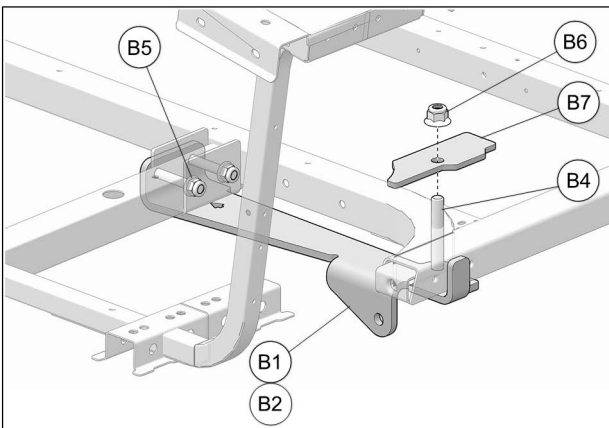

Fig. 11
9. Slide cover plate (**B7**) over M10x70mm bolt (**B4**) and secure plate to vehicle frame with M10 nut (**B6**). Tighten M8 nuts (**B5**) to 50 Nm [37 lb•ft] and M10 nut (**B6**) to 70 Nm [52 lb•ft]. See Fig. 11